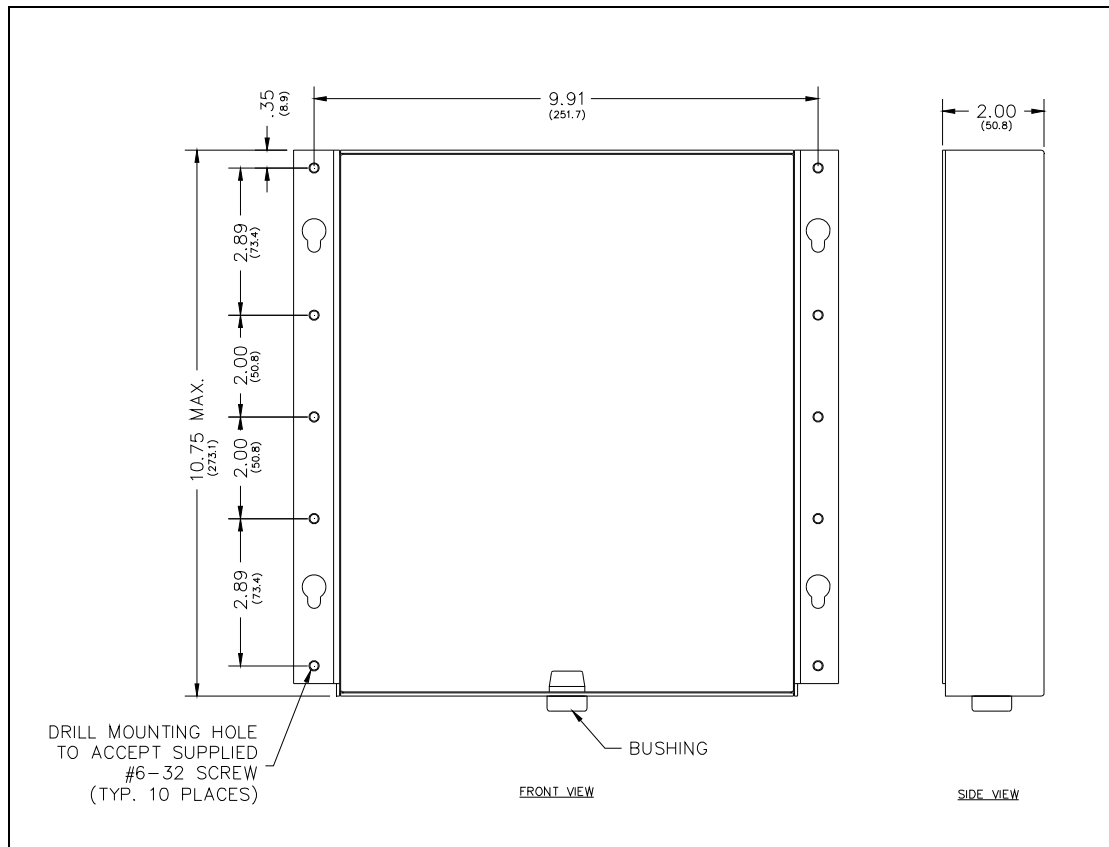

Figure 6. Back Box for Model 295-001F
4. Place the bushing around the field telephone line and the power cable line approximately 6–8 inches from the end of the cable. Snap the bushing closed and insert into double “D” hole in the bottom of the back box. See Figure 3 and Figure 6.
5. Place the back bracket in the wall. Locate the mounting holes. Refer to Figure 6.